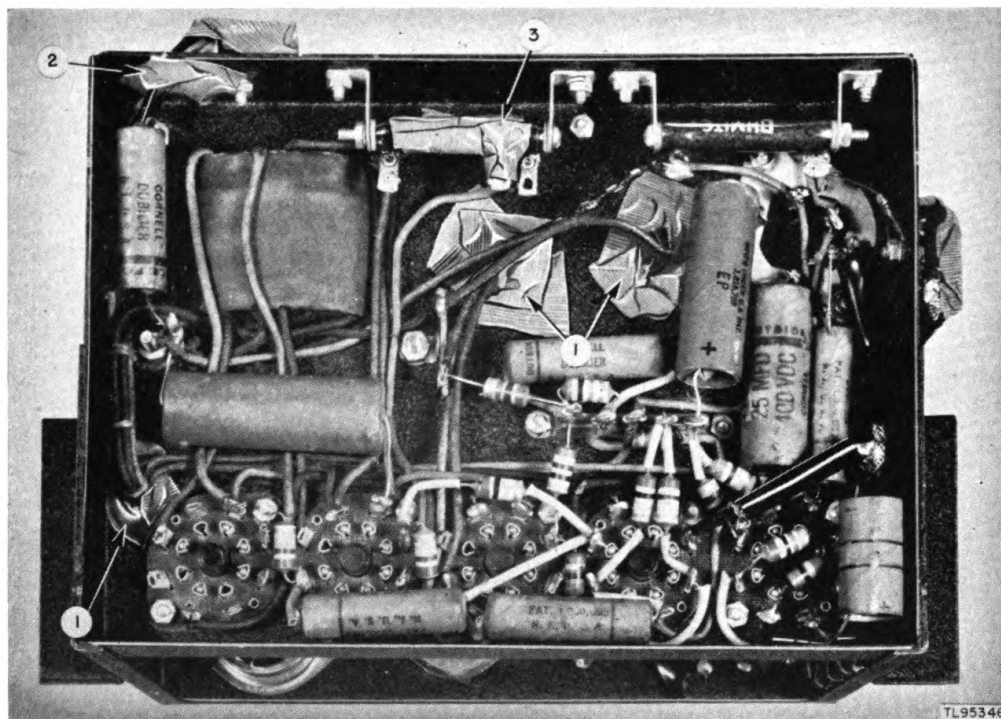
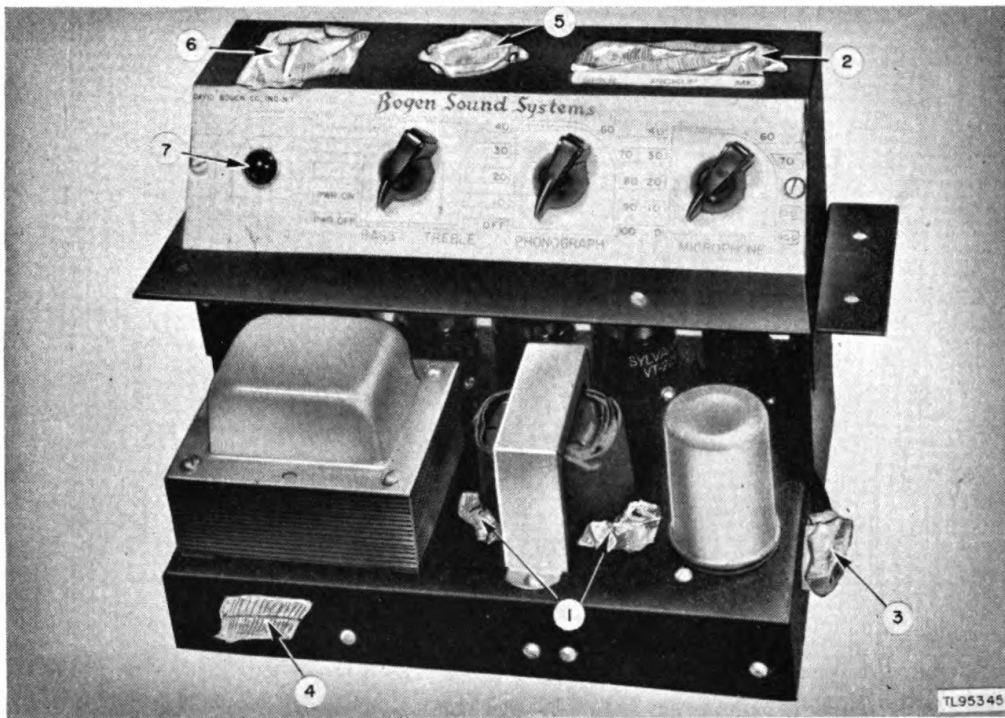
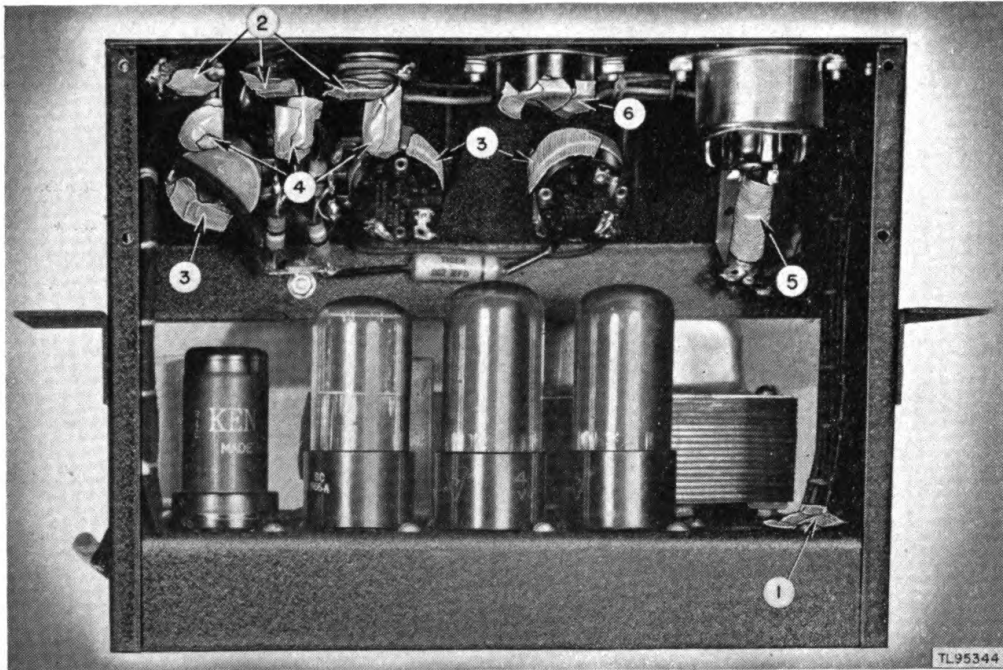

Figure 9. Reproducer amplifier chassis, bottom view, masking details.
Figure 10. Reproducer amplifier chassis, front view, masking details.
Figure 11. Reproducer amplifier chassis, rear view, rectifier tube removed, masking details.
- (2) Mask the three rubber chassis-grommets (figs. 10 and 11 (1)).
- (3) Apply petroleum jelly (vaseline) to all prongs of all vacuum tubes and replace the vacuum tubes in their respective sockets after the masking has been completed.
- (4) Mask the 5Y3GT rectifier tube by using paper and masking tape. Cover the entire envelope of the tube.
- (5) Mask the three rubber chassis-grommets on the under side of the amplifier chassis (fig. 9 (1)).
- (6) Mask the rubber grommet for the motor leads (fig. 9 (2)).
- (7) Mask the wire-wound resistor and slide (fig. 9 (3)).
- (8) Mask the terminal connector for the pick-up leads, located on one end of the amplifier chassis (fig. 10 (3)).
- (9) Mask the terminal connector for the motor leads located on the front of the amplifier chassis (fig. 10 (4)).
- (10) Mask the 2-prong female receptable on the top of the control panel (fig. 10 (5) and fig. 11 (6)).
- (11) Mask the 2-prong male receptable on the top of the control panel by stuffing paper loosely in the hole and covering the top with masking tape (fig. 10 (6)).
- (12) Mask the holes of the three jacks (figs. 10 and 11 (2)).
- (13) Apply a coat of petroleum jelly to the glass over the pilot light (fig. 10 (7)).
- (14) Mask the breather holes of the three potentiometers (fig. 11 (3)).
- (15) Thoroughly mask the three jacks (SPKR jack, PICKUP jack, and MIC jack) (fig. 11 (4)).
- (16) Mask the pilot lamp and pilot light socket (fig. 11 (5)).